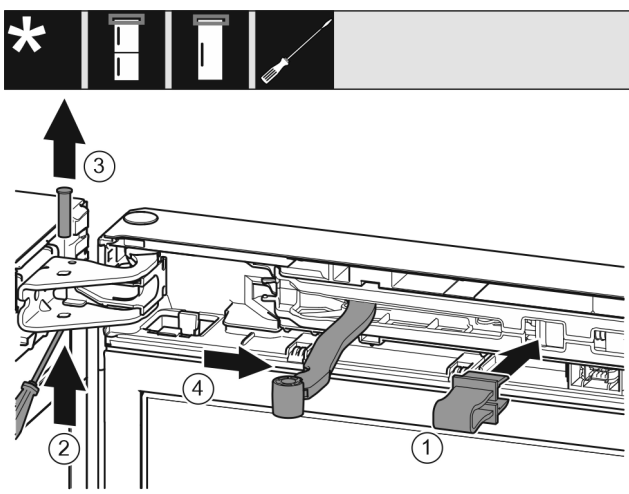

Fig. 5
- ▶ Engage the locking device in the opening. Fig. 5 (1)
- ▶ Unscrew the bolt with a screwdriver. Fig. 5 (2)
- ▶ Remove the bolt upwards. Fig. 5 (3)
- ▶ Turn the hinge in the direction of the door. Fig. 5 (4)